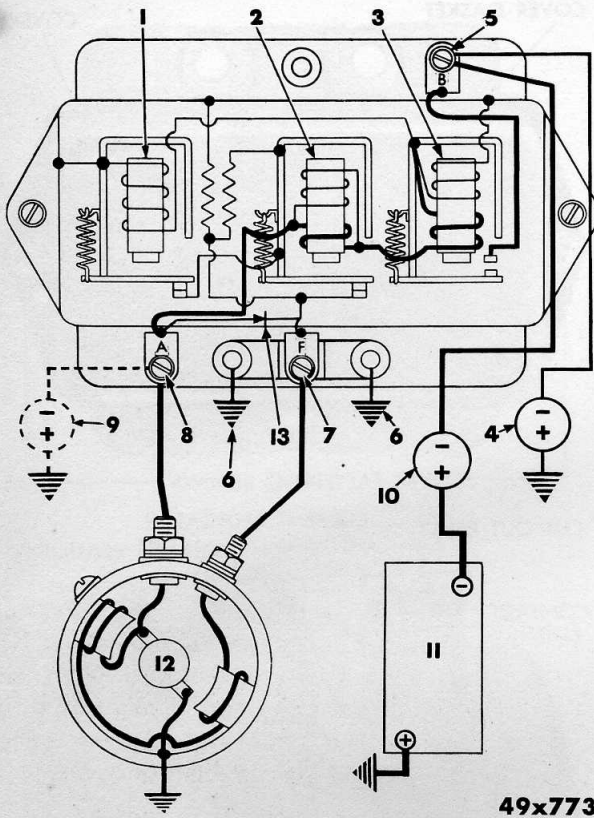

Fig. 9—Generator Regulator Wiring Diagram and Test Connections
- (1) Test and check the wiring in the charging circuit (Fig. 9). Be sure that all connections are clean, tight and in good condition.
- (2) Test the specific gravity and check the ground polarity and voltage of the battery. If the battery is not fully charged and in good condition, substitute (for test purposes only) a fully charged battery of the same type and capacity.
- (3) Check generator for operation without the regulator in the circuit.
- (4) Check the part numbers stamped on the name plates of the generator and regulator in order to make sure the correct regulator has been installed. Each regulator is designed for use with a generator having a specified field draw, output, internal connections and speed range. The regulator may not work properly if an incorrect substitution has been made.
Disconnect wire from the "B" terminal of the regulator. Connect the positive (+) lead of a test ammeter to the wire removed and the negative (—) lead to the regulator "B" terminal, as shown in Figure 9.
Connect the negative (—) lead of a test voltmeter to the "A" terminal of the regulator and connect the positive (+) lead to the regulator housing ground, as shown in Figure 9.
Change the voltmeter connection from the armature to the battery terminal of regulator, as shown in Figure 9. Then, connect a variable resistance across the battery posts.